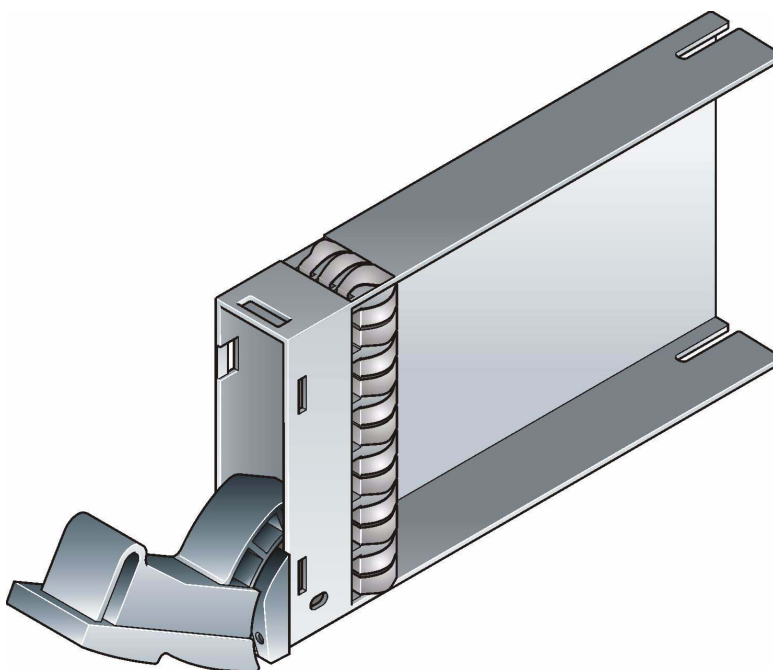

Figure 2-18 Installing an Ultra-3 SCSI Drive Carrier Module (1)
- 1 Release the carrier handle, by pressing the latch in the handle downwards and insert the carrier into the enclosure in the vertical position (Figure 2-18).
Important Ensure that the carrier is orientated so that the drive is on the right side and the handle opens from the top (see Figure 2-18).